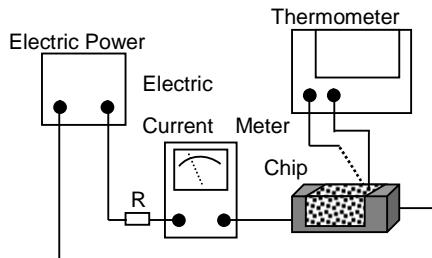

Fig. 5.3.3-1
d. Definition of Rated Current (I_r): I_r is direct electric current as chip surface temperature raises just 20°C . against chip initial surface temperature(T_a). (see Fig. 5.3.3-2):